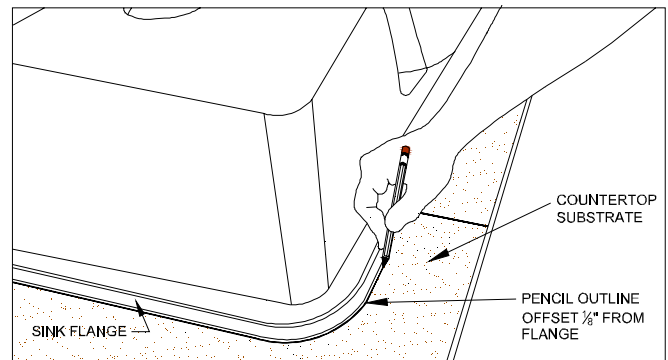

Figure 19B
- With a pencil, trace the sink perimeter leaving an  $\frac{1}{8}$ " gap between the pencil line and the rim of the sink. (FIG. 19B)